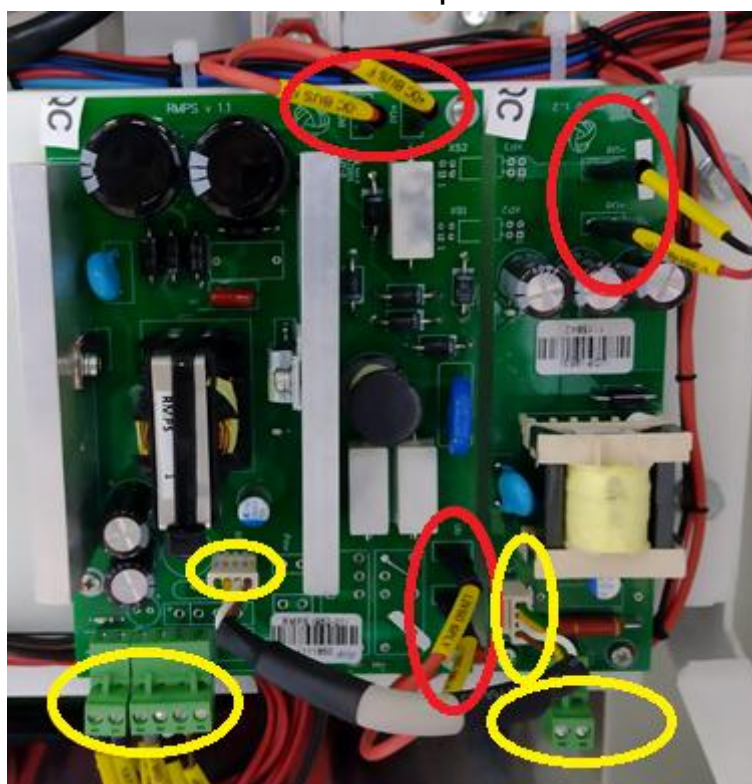

Figure 1 – Unplug and unscrew connectors of a RMPS + UDP unit
2. Unplug signal connectors (yellow) from a terminal blocks which is shown at figure 1 and disconnect the blade clamps shown in red circles.